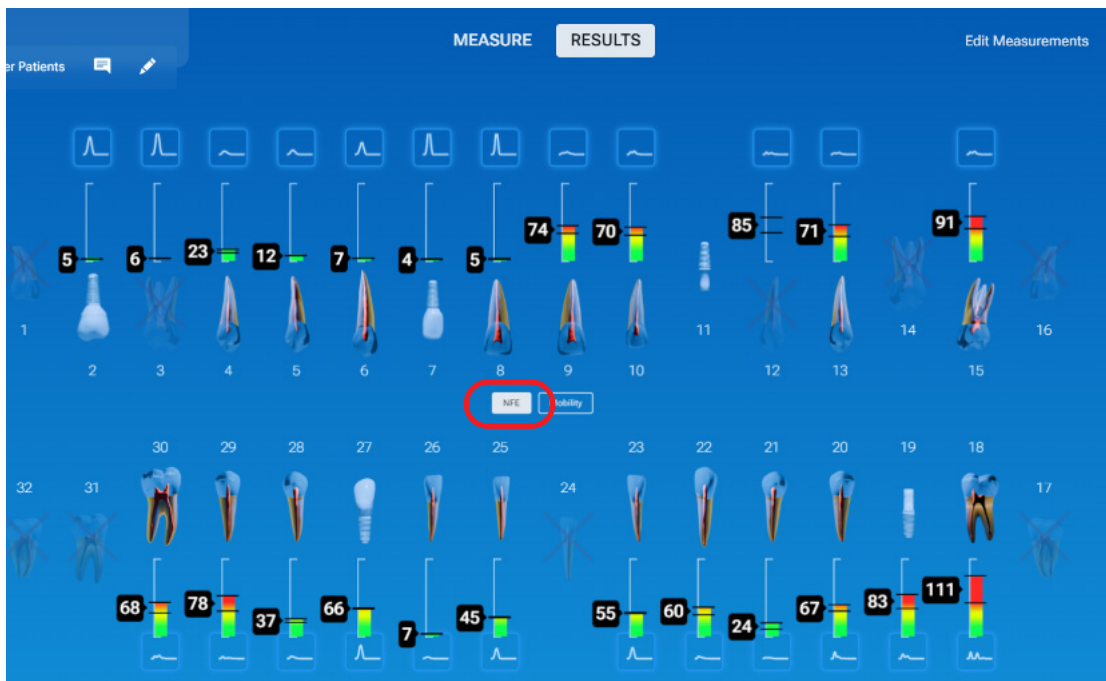

Figure 26: "Results" screen with NFE measurements "
8. When the measurements are complete, the “**Results**” screen will appear (*Figure 26*).